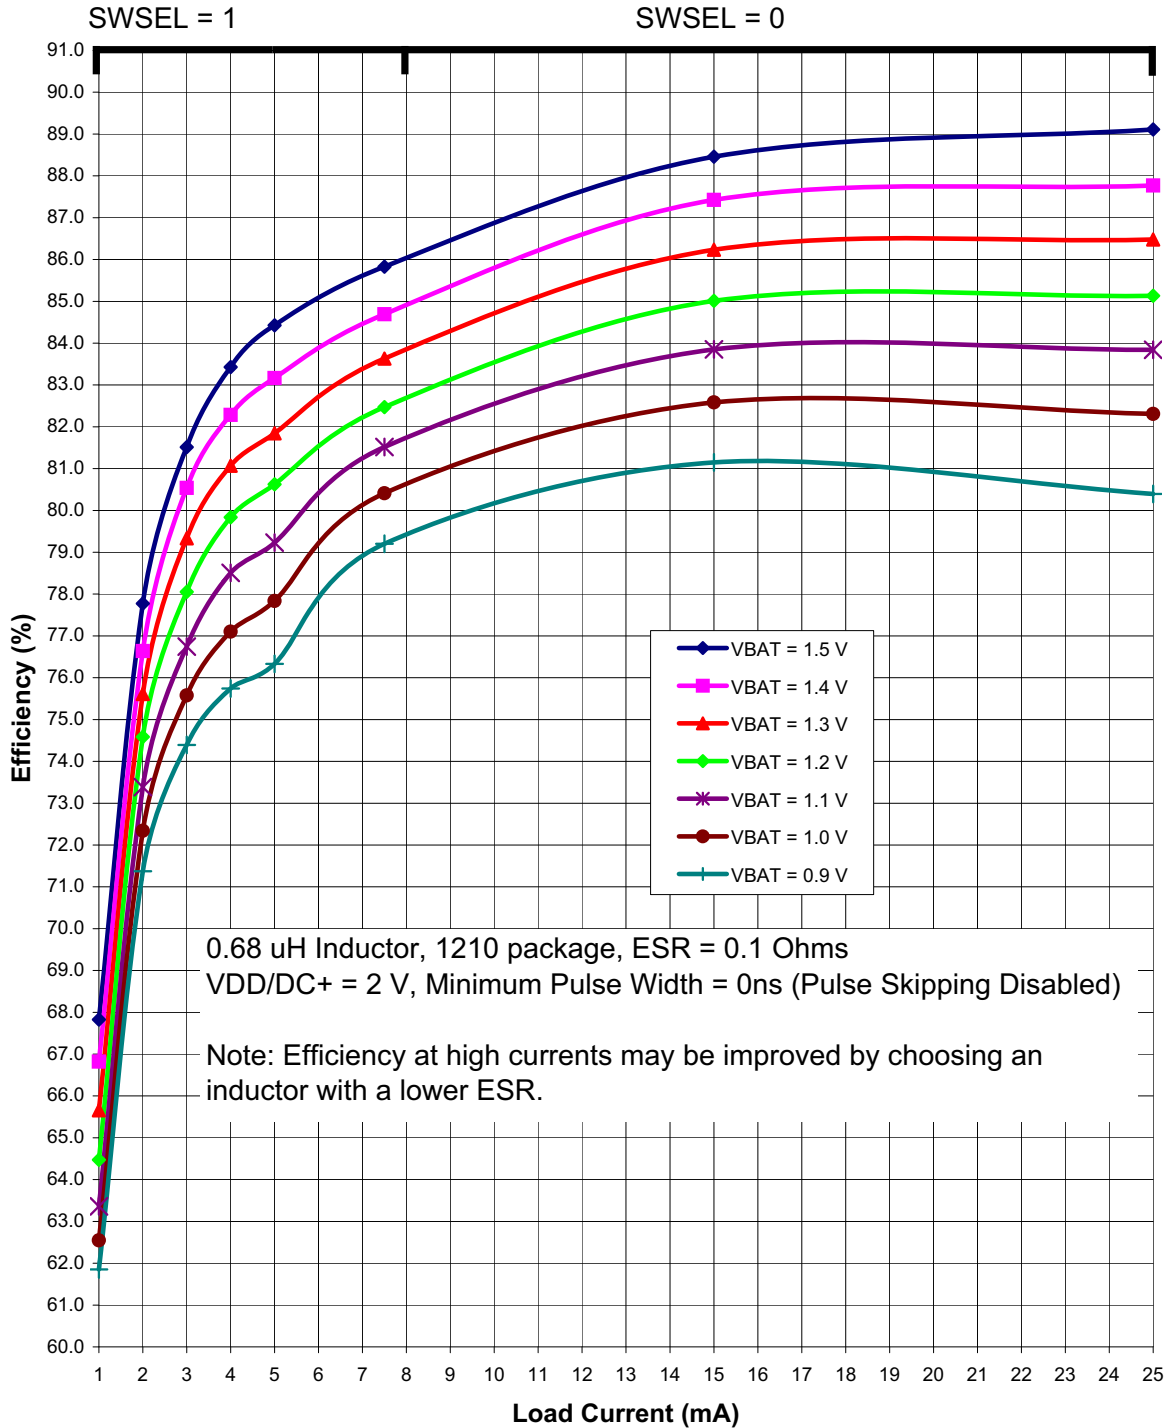
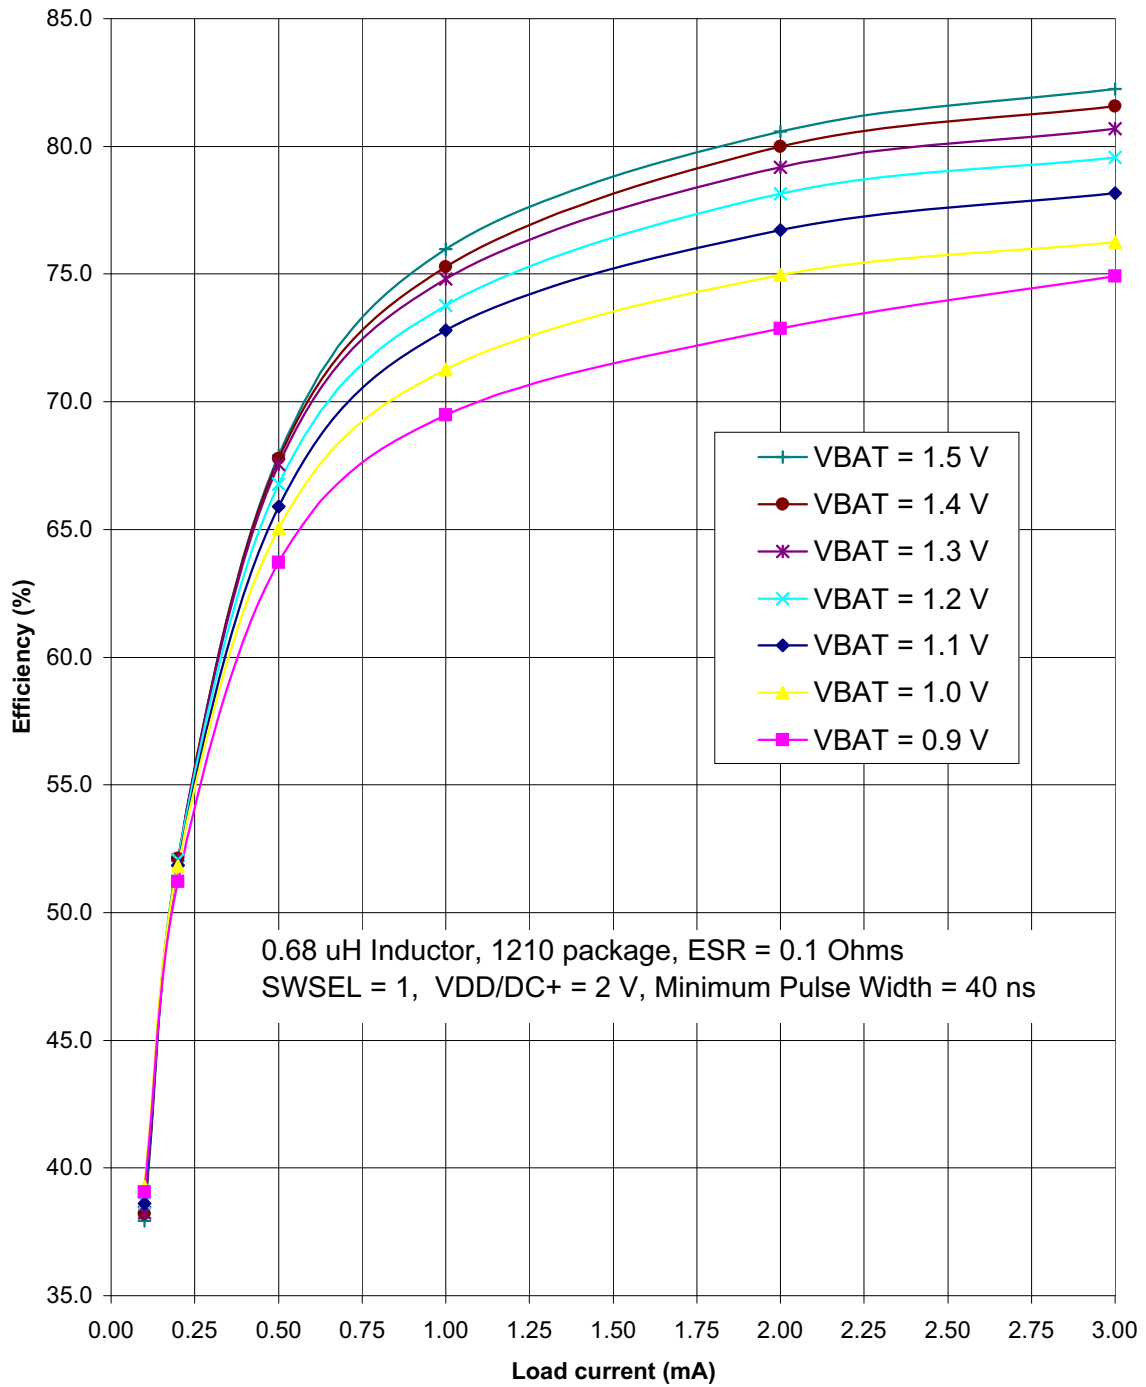

Figure 4.3. Typical DC-DC Converter Efficiency (High Current, VDD/DC+ = 2 V)
Figure 4.5. Typical DC-DC Converter Efficiency (Low Current, VDD/DC+ = 2 V)
<ol style="list-style-type: none"> 1. Based on device characterization data; Not production tested. 2. SYSCLK must be at least 32 kHz to enable debugging. 3. Digital Supply Current depends upon the particular code being executed. The values in this table are obtained with the CPU executing an "sjmp \$" loop, which is the compiled form of a while(1) loop in C. One iteration requires 3 CPU clock cycles, and the Flash memory is read on each cycle. The supply current will vary slightly based on the physical location of the sjmp instruction and the number of Flash address lines that toggle as a result. In the worst case, current can increase by up to 30% if the sjmp loop straddles a 64-byte Flash address boundary (e.g., 0x007F to 0x0080). Real-world code with larger loops and longer linear sequences will have few transitions across the 64-byte address boundaries. 4. Includes oscillator and regulator supply current. 5. IDD can be estimated for frequencies ≤ 14 MHz by simply multiplying the frequency of interest by the frequency sensitivity number for that range, then adding an offset of 90 μA. When using these numbers to estimate I_{DD} for >14 MHz, the estimate should be the current at 25 MHz minus the difference in current indicated by the frequency sensitivity number. For example: V_{DD} = 3.0 V; F = 20 MHz, I_{DD} = 4 mA – (25 MHz – 20 MHz) x 0.102 mA/MHz = 3.5 mA assuming the same oscillator setting. 6. The supply current specifications in Table 4.2 are for two cell mode. The VBAT current in one-cell mode can be estimated using the following equation: $\text{VBAT Current (one-cell mode)} = \frac{\text{Supply Voltage} \times \text{Supply Current (two-cell mode)}}{\text{DC-DC Converter Efficiency} \times \text{VBAT Voltage}}$ <p>The VBAT Voltage is the voltage at the VBAT pin, typically 0.9 to 1.8 V. The Supply Current (two-cell mode) is the data sheet specification for supply current. The Supply Voltage is the voltage at the VDD/DC+ pin, typically 1.8 to 3.3 V (default = 1.9 V). The DC-DC Converter Efficiency can be estimated using Figure 4.3–Figure 4.5.</p> 7. Idle IDD can be estimated by taking the current at 25 MHz minus the difference in current indicated by the frequency sensitivity number. For example: V_{DD} = 3.0 V; F = 5 MHz, Idle I_{DD} = 2.1 mA – (25 MHz – 5 MHz) x 0.079 mA/MHz = 0.52 mA. 8. Internal LFO only available on 'F912 and 'F902 devices. 9. Ability to disable VBAT supply monitor only available on 'F912 and 'F902 devices.